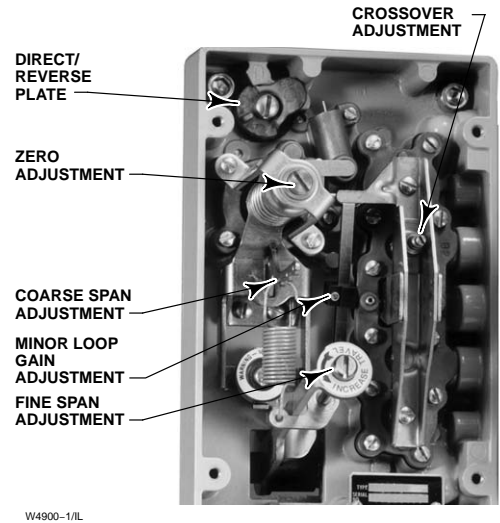

Figure 4. Adjustments for Fisher 3610J and 3620J Positioners
- **Easy Positioner Adjustments**—With the cover removed, zero, span, and cross-over adjustments, shown in figure 4, are easily accessible and can be made with a screwdriver.